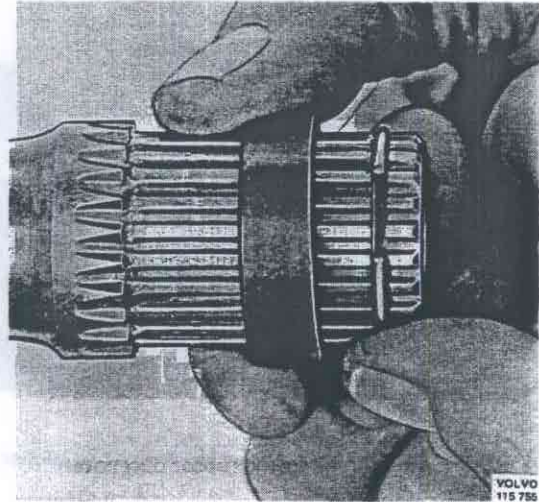

Fig. 46-92. Placing the circlip
3. Replace the circlip on the drive shaft and push the spacer ring over the circlip, Fig. 46-92.